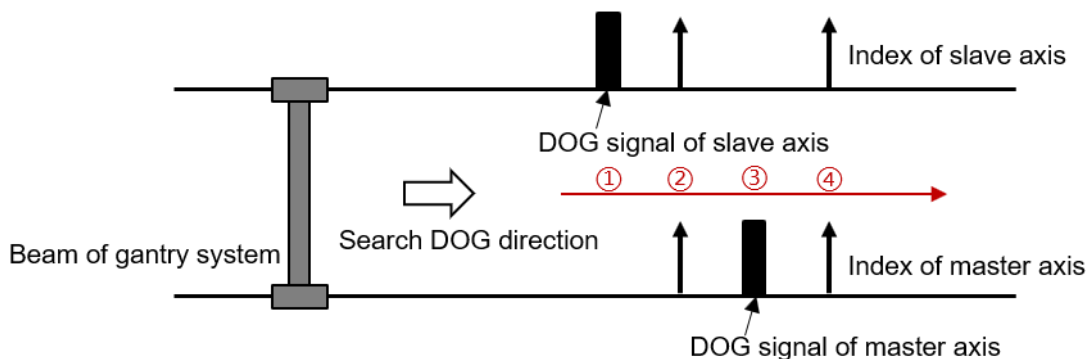

Figure 6.7.1
- V. Complete slave axis' homing procedure and master axis' homing procedure, as figure 6.7.1 shows.